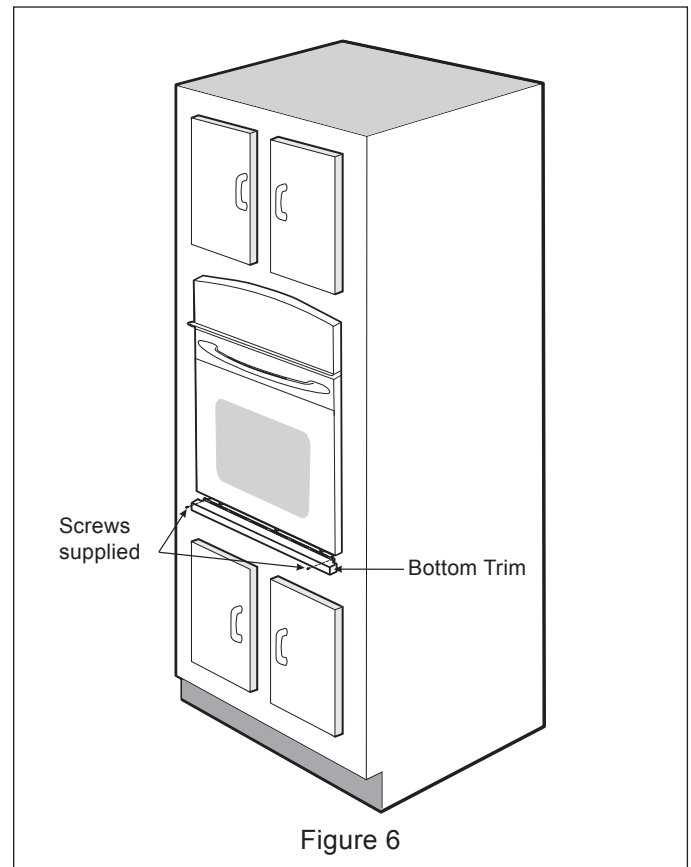

Figure 6
- B. Attach the trim using the provided screws (see Figure 6).